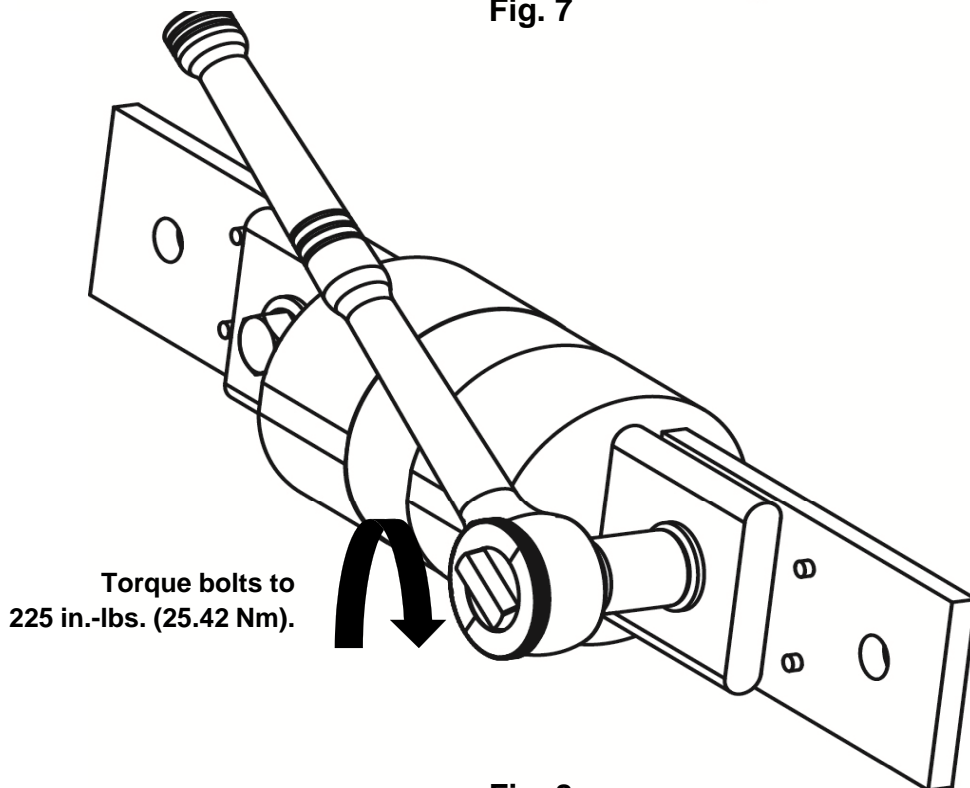

Fig. 8
5. Check torque on “J” fuse screws after seated as shown in Fig. 8.